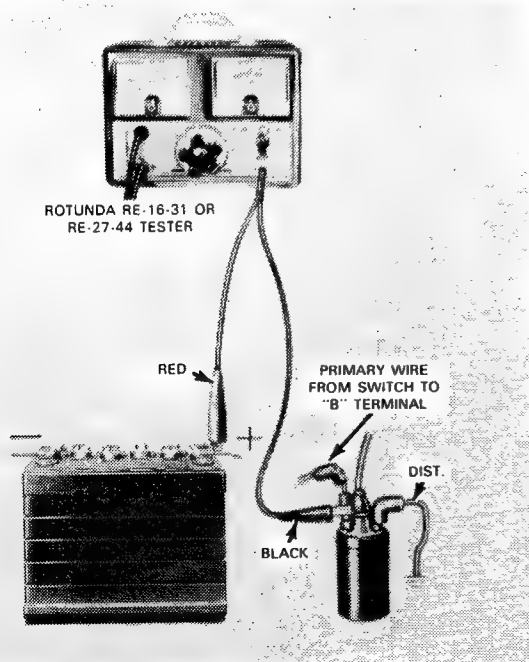

FIG. 6 Battery-to-Coil and Starting Ignition Circuit Test
1. Connect the voltmeter leads as shown in Figure 6.